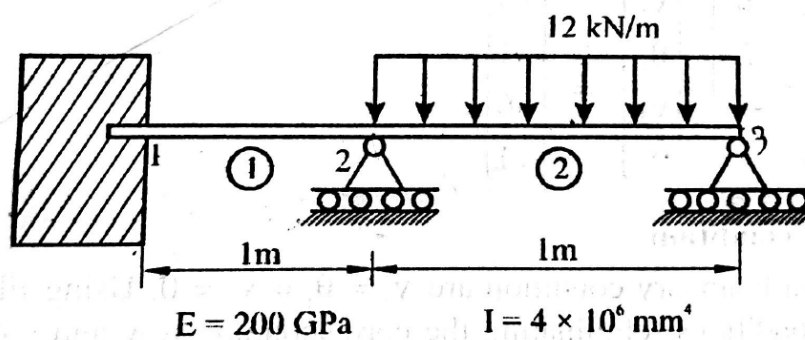

Figure-6
b) For the beam as shown in figure-6, determine the slopes at nodes 2 and 3. Take $E=200$ GPa, $I=4 \times 10^6$ mm⁴.